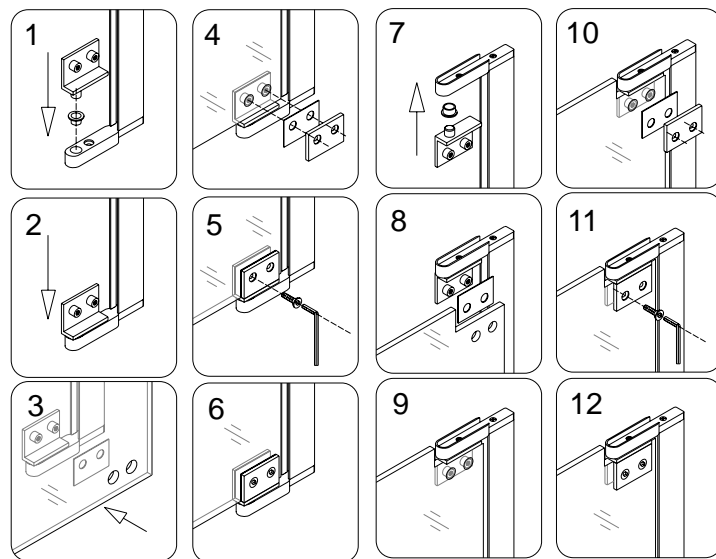

Fig 4
- **Please note the Glass door (3) is heavy; you will need help of 1-2 people to hold this door for you during next step.**
Set the **Glass door (3)** so the holes are aligned. Make sure the rubber gaskets are in between the glass and the metal parts. Secure the glass with the back fastener using the provided bolt. Repeat the same steps for the upper pivot assembly. See Fig 4 for details.